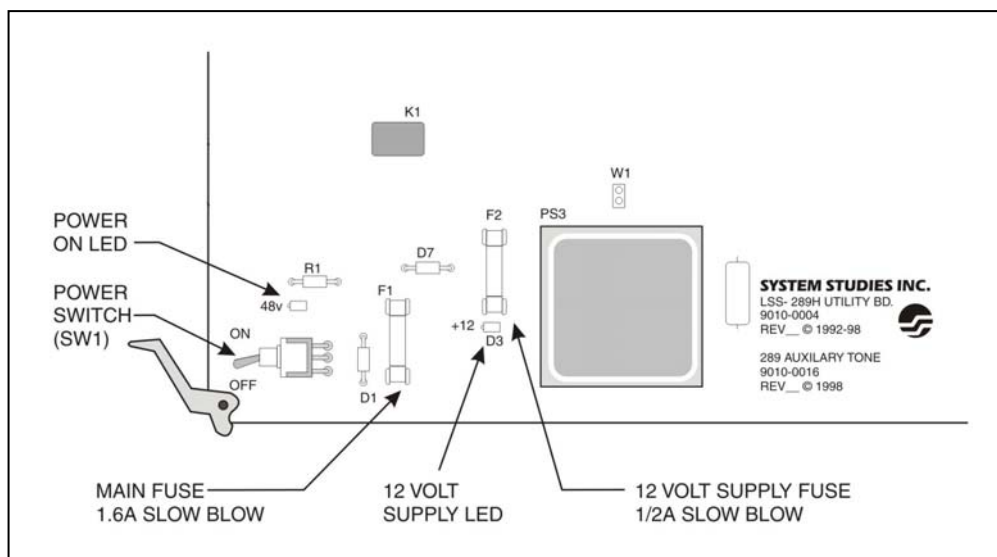

FIGURE 5-1: 289H UTILITY CARD POWER SWITCH
1. Turn the power switch on the Utility Card to the OFF position (FIGURE 5-1).